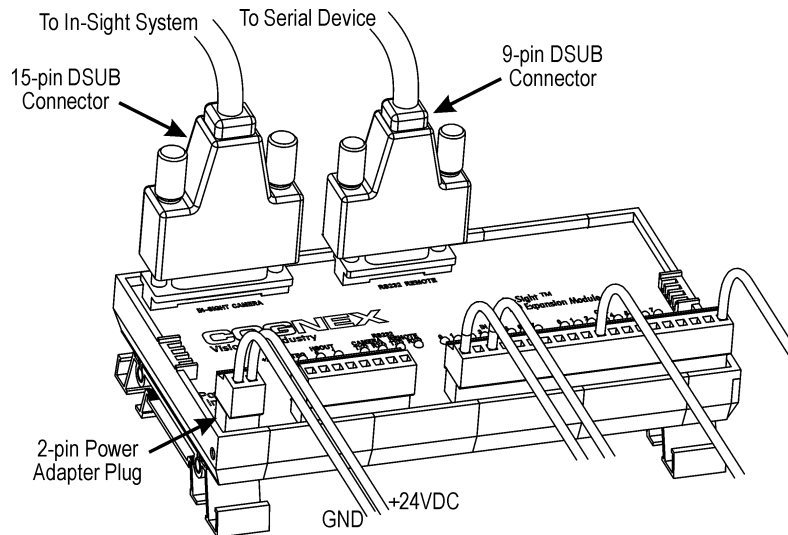

Figure 2-3: I/O Expansion Module Connections
- 6 Plug wire leads from a 24VDC supply for the +24V power and ground into the 2-pin terminal plug labeled "Power Input" on the Expansion Module. Alternatively, remove the terminal plug and insert the 2-pin terminal plug attached to the In-Sight power adapter into the keyed power adapter port on the Expansion Module (Figure 2-3).